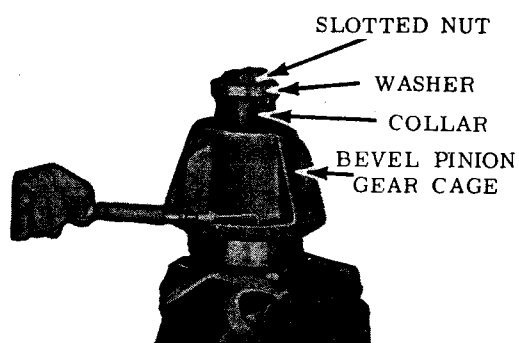

Figure 44. Checking bevel pinion gear bearing preload.
f. Rotate the bevel pinion gear cage several revolutions before checking bearing preload. Check bearing preload by inserting the hook end of a scale 41-S-507-25 (fig. 44) in one of the pinion bearing cage mounting holes. While pulling on a horizontal plane, note the reading on the scale. Bearing preload should be between 12 to 18 inch pounds. To obtain the bearing preload, multiply the radius of the pinion cage by the reading on the scale.
g. To increase the bearing preload, remove shims (M). To decrease the bearing preload, add shims (M).
h. Remove the slotted nut, washer, and collar from pinion gear shaft. Install a new oil seal (R) in the bevel pinion gear cage (N), making certain that the lip of leather seal is facing the bearing cone. Lubricate the seal with oil and install the universal joint yoke (S), plain washer (T), slotted nut (U) on the pinion gear shaft. Tighten the nut and secure with new cotter pin (V).
i. Place the shims (G) that were removed during disassembly on the bevel pinion gear cage (N).